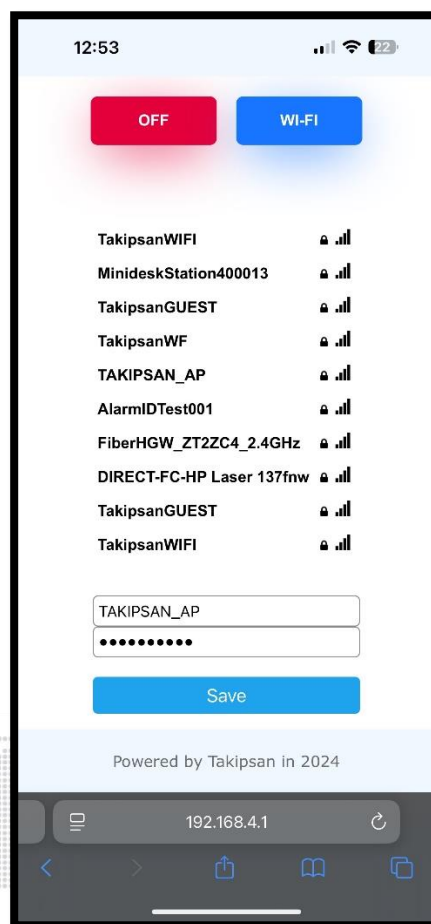

Figure-9
- Select the name of the network to connect to from the Wi-Fi list and enter the password, then click “Save” button. (Figure-9)